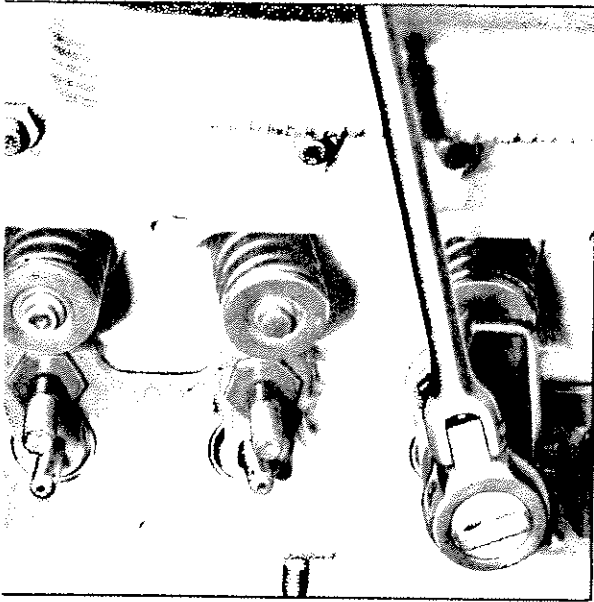

Fig. 35—Push Rods Installed
7. Install push rods with the side oil hole out (fig. 35).